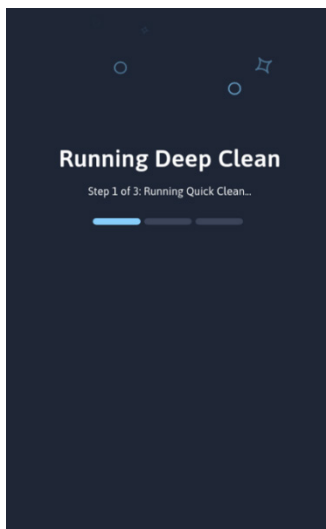

Figure 36
5. The analyzer will run 2 wash cycles then automatically perform the Deep Clean (3 minutes) and conclude by automatically running two additional wash cycles (Figure 36). During the 3 minute Deep Clean, the device will appear to be idle while the fluidic system soaks in hypochlorite.